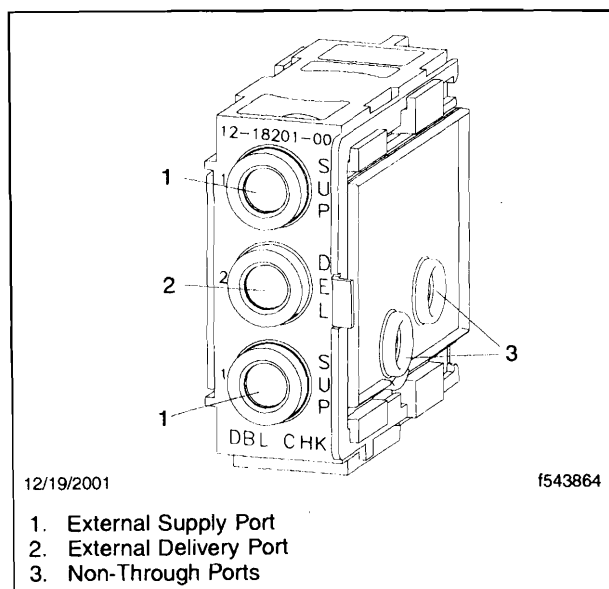

Fig. 1, Double-Check-Valve Module
5. Find the double-check-valve module on the AMU. See **Fig. 1**.